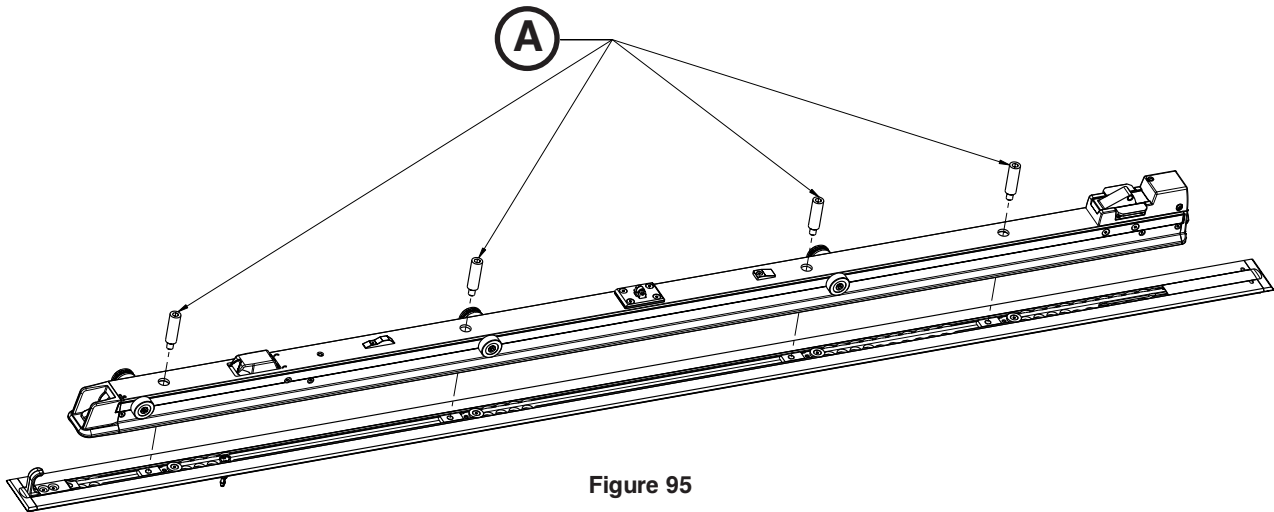

Figure 95
4. Using a 3/8" Allen driver, remove the four anchor mounting posts (A) that secure the anchor to the floor plate (Figure 95).